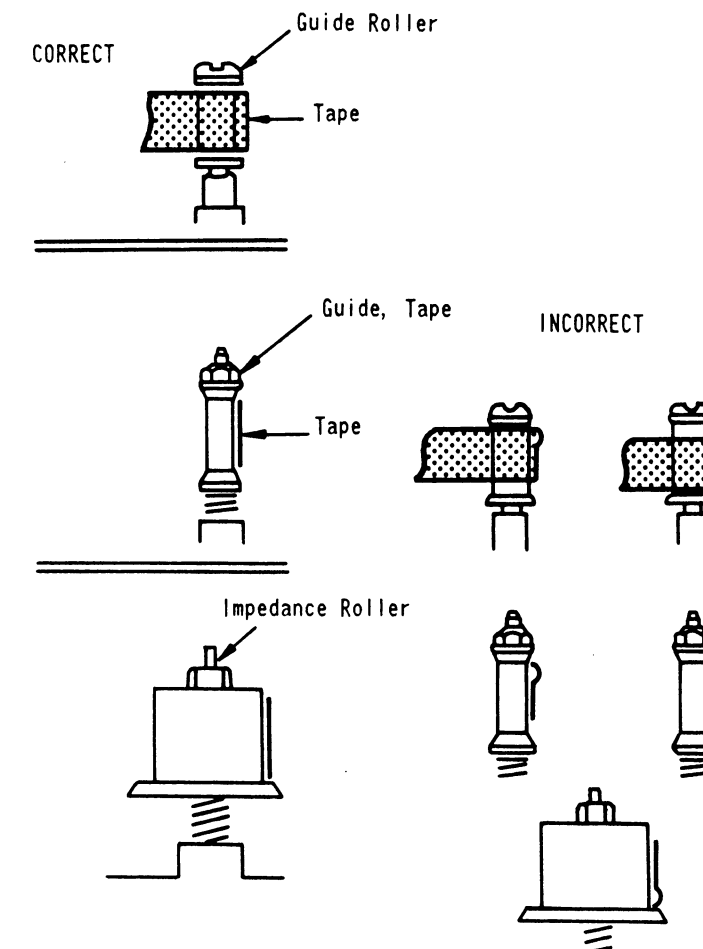
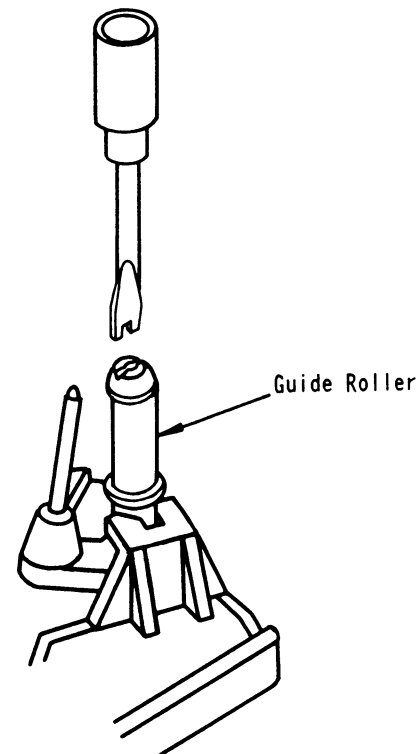

Fig. 5-3
Fig. 5-5
5. During loading, play and unloading, observe the tape at the supply and take-up guide rollers, tape guide and impedance roller. Confirm that there is no curling or creasing etc., as shown in Fig. 5-3.
7. Next, adjust the guide roller height. Insert the adjustment driver (FSJ-0001) into the guide roller top. (Refer to Fig. 5-5.) Adjust the height by turning the driver slightly so that the tape runs on the guide roller as shown in Fig. 5-3, and the lower edge of the tape runs along the lead surface of the cylinder.